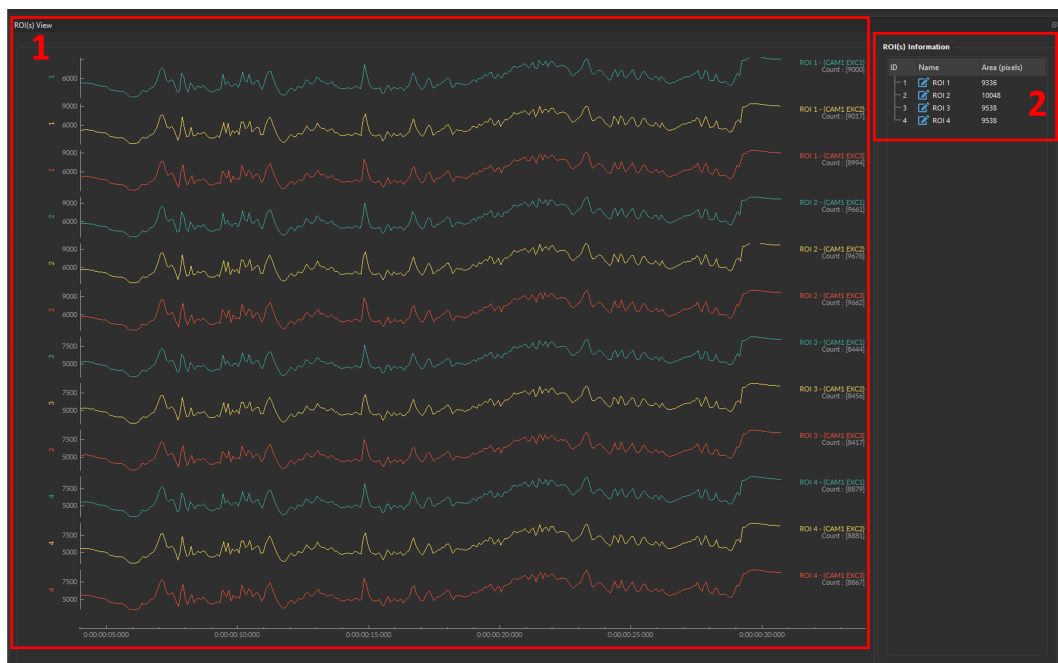

Figure 9.43: ROI(s) View
1. The **ROI(s) signal graph** (Fig. 9.43, 1) displays the raw signal trace for each ROI(s).
2. **ROI(s) Information** Tab (Fig. 9.43, 2) displays a table with ROI basic data, including: